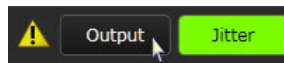

Figure 47 Enable global outputs
- 11 Enable the global outputs by clicking on the **Output** button present on the **Status Bar** as shown in Figure 47 on page -93.